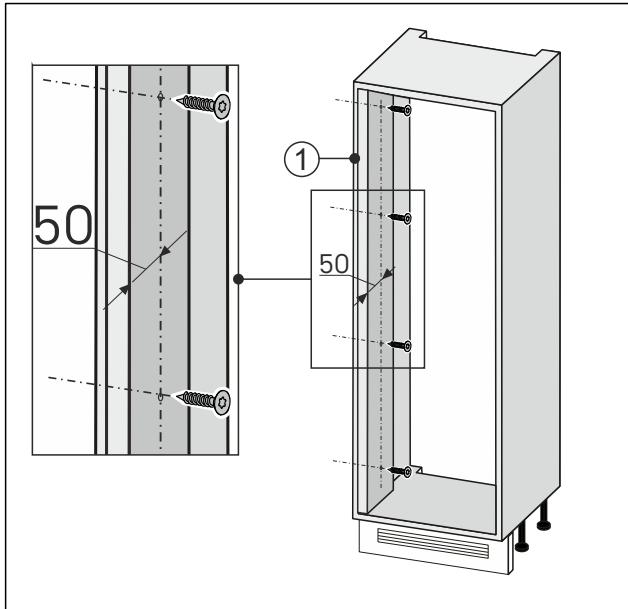

Fig. 93
- Screw the wall levelling on the side where the door opens Fig. 93 (1) to the unit niche.